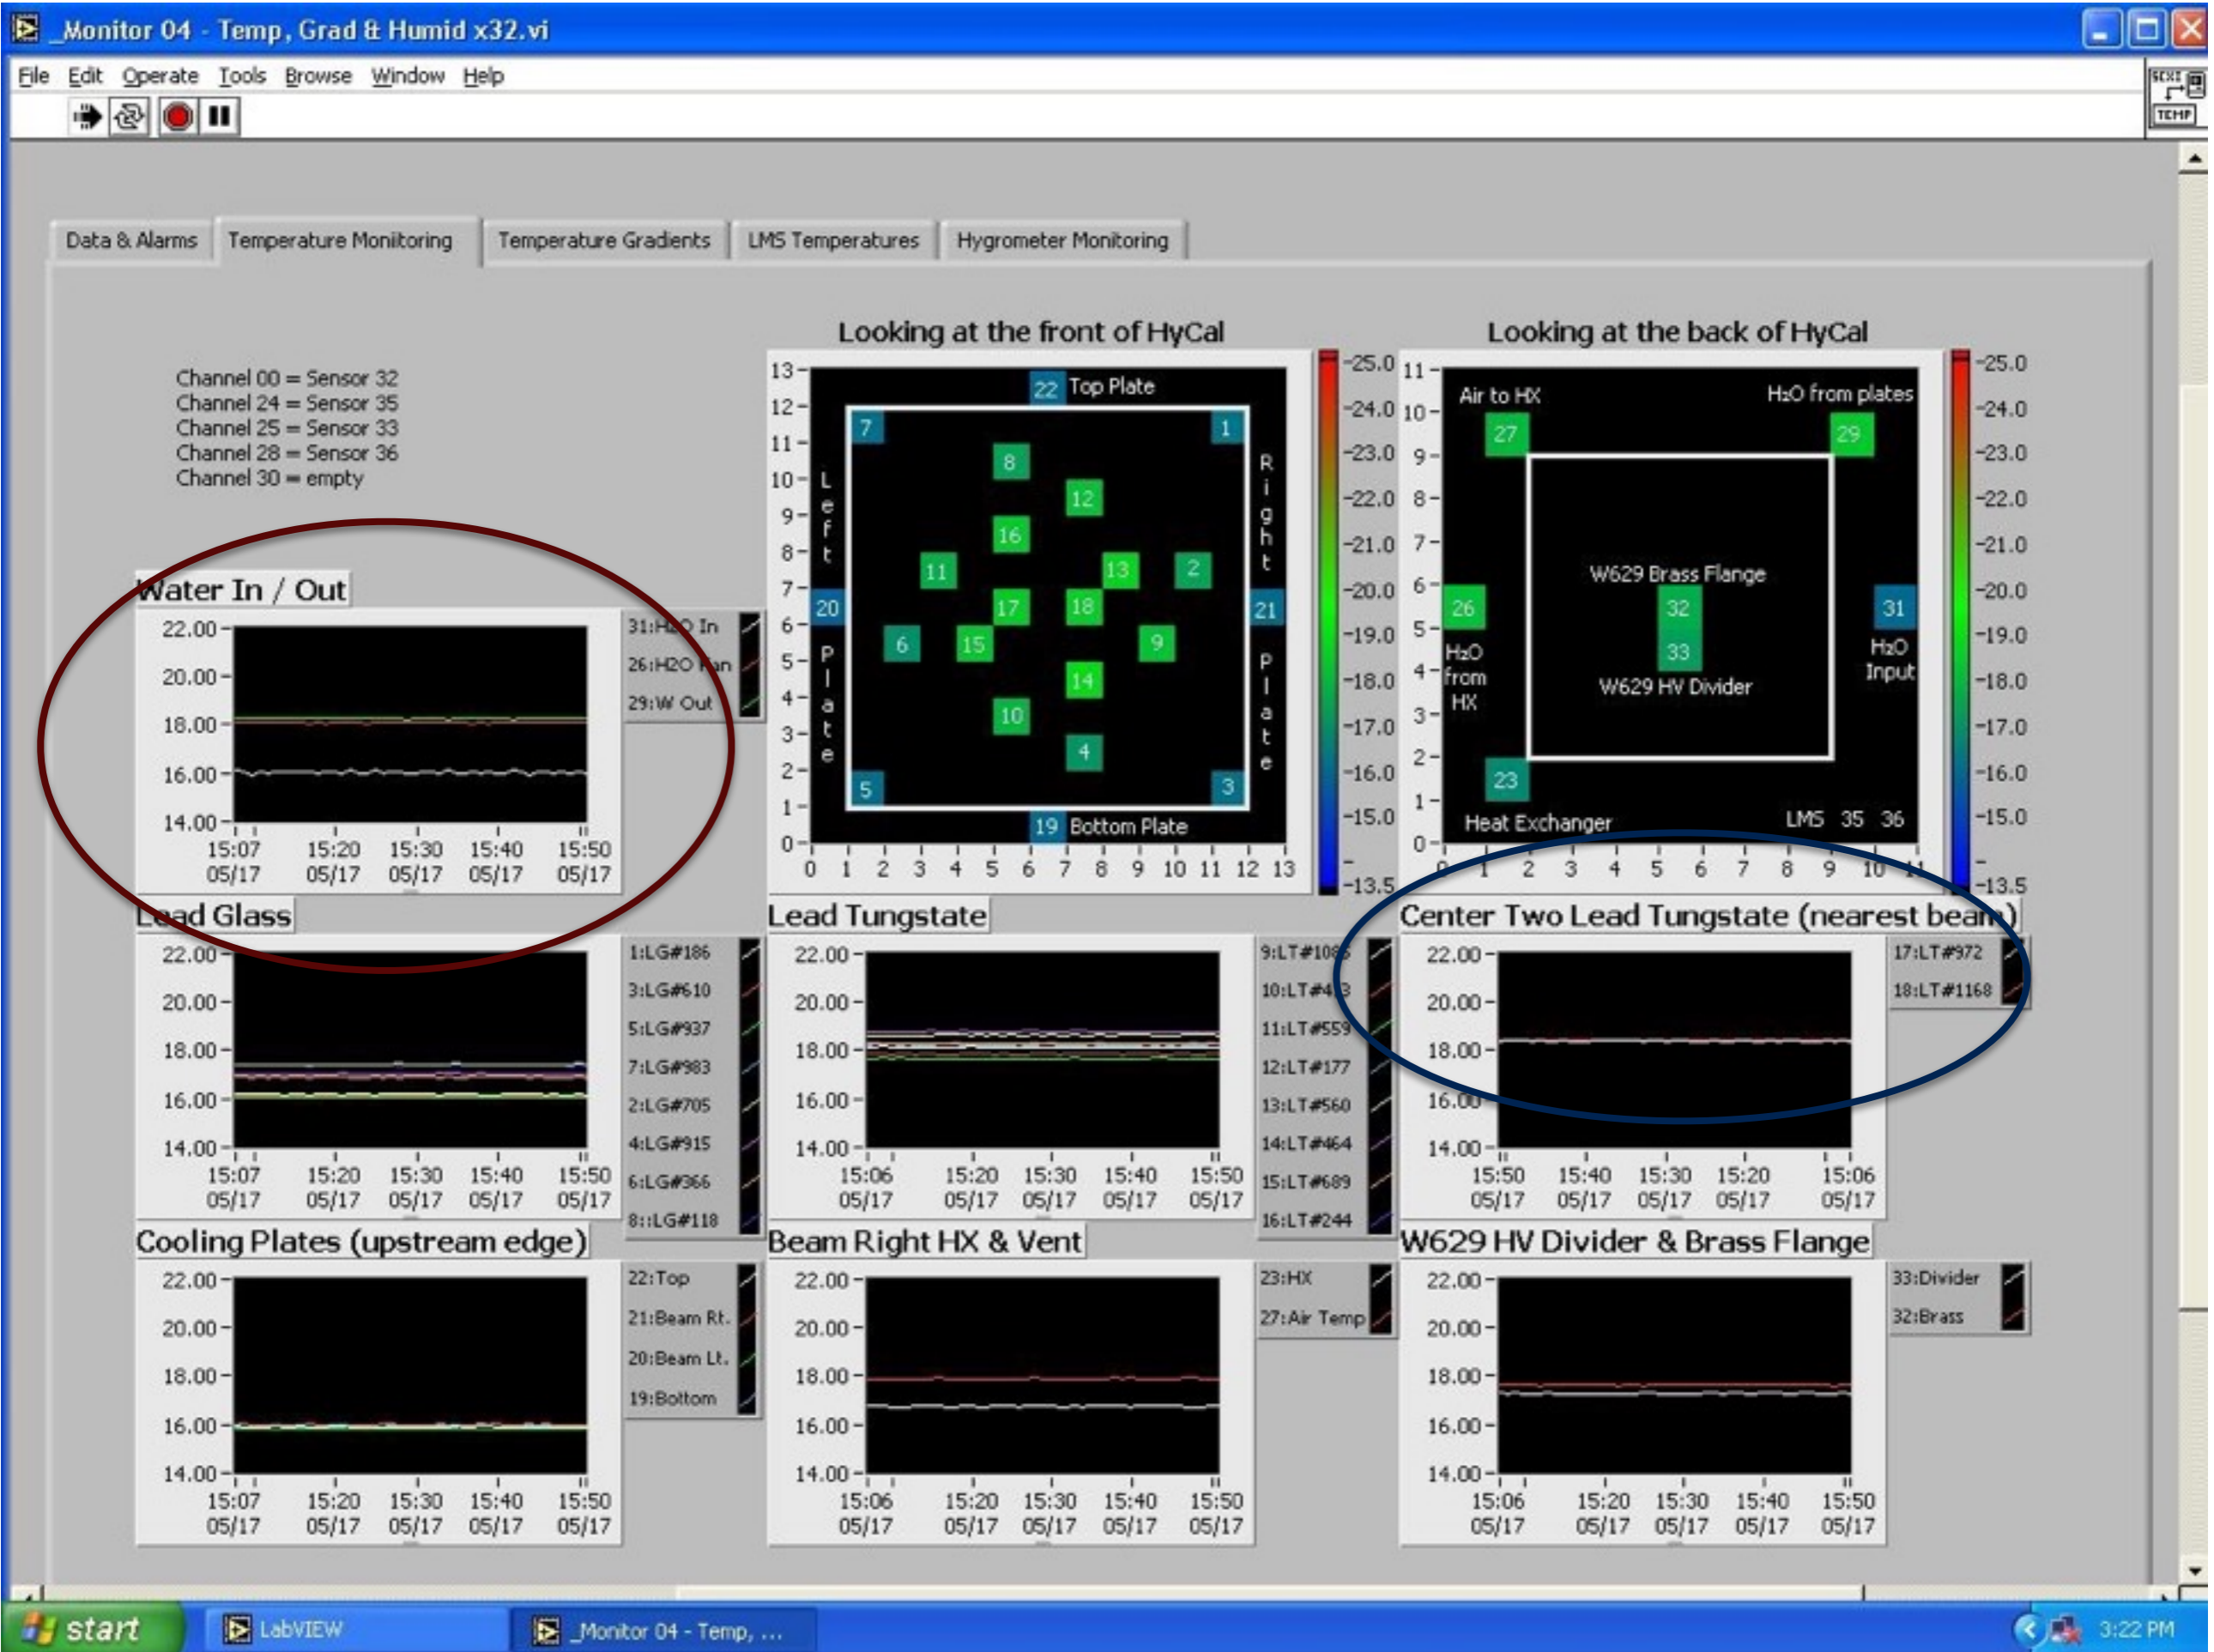

Fig. 4
- Hycal temperature and Chiller water temperature: Get from the right viewer camera image on CLONPC17 (see Fig. 4, Hycal temp is shown by blue oval and chiller water temp is shown by the red oval.)